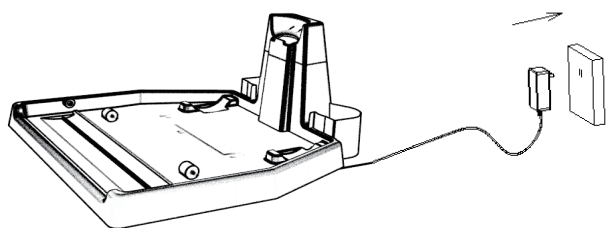

Fig.14
- 1.Insert the adapter of charger into the power outlet (see Fig.14).